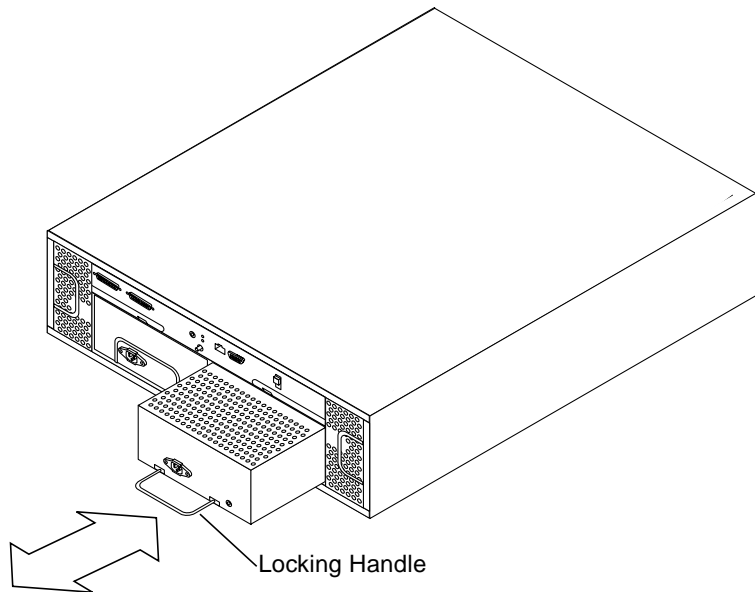

FIGURE 3-4 Removing and Replacing a Power Supply
2. Pull the locking handle down and slide the power supply out of the bay (FIGURE 3-4).